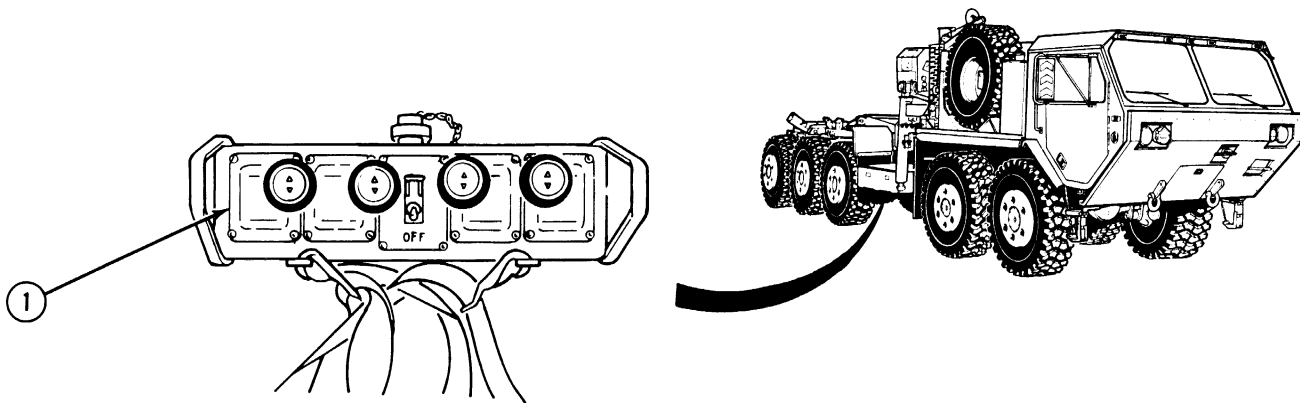

Figure 1-22. Remote Controls
**c. Remote Controls.** The remote control system (Figure 1-22) is designed to operate the spools of the directional control valve. Remote control is proportionally variable. Remote control (1) is provided with an emergency shutdown capability and designed so that when activated, all remote control crane functions cease and truck speed is reduced to idle. The operator can operate the remote control anywhere within 35 ft (10.7 m) of the crane base. The controller has multiple functions to match control levers on the fixed control except for the mast and outrigger controls.